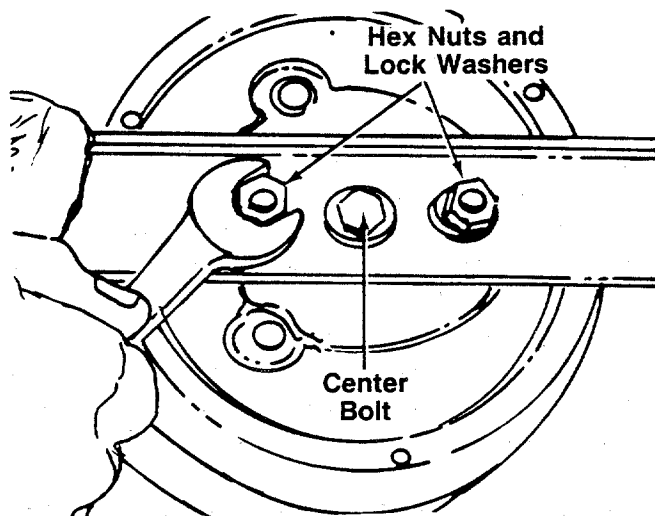

FIGURE 19.
To remove the cutting blade for sharpening or replacement, remove the two hex nuts and lock washers which hold the blade to the blade brake/clutch. Protect hands by using heavy gloves or a rag to grasp the cutting blade. See figure 19.
9. Tip the mower on its side. Remove the blade by removing two hex nuts and lock washers. Refer to figure 19.